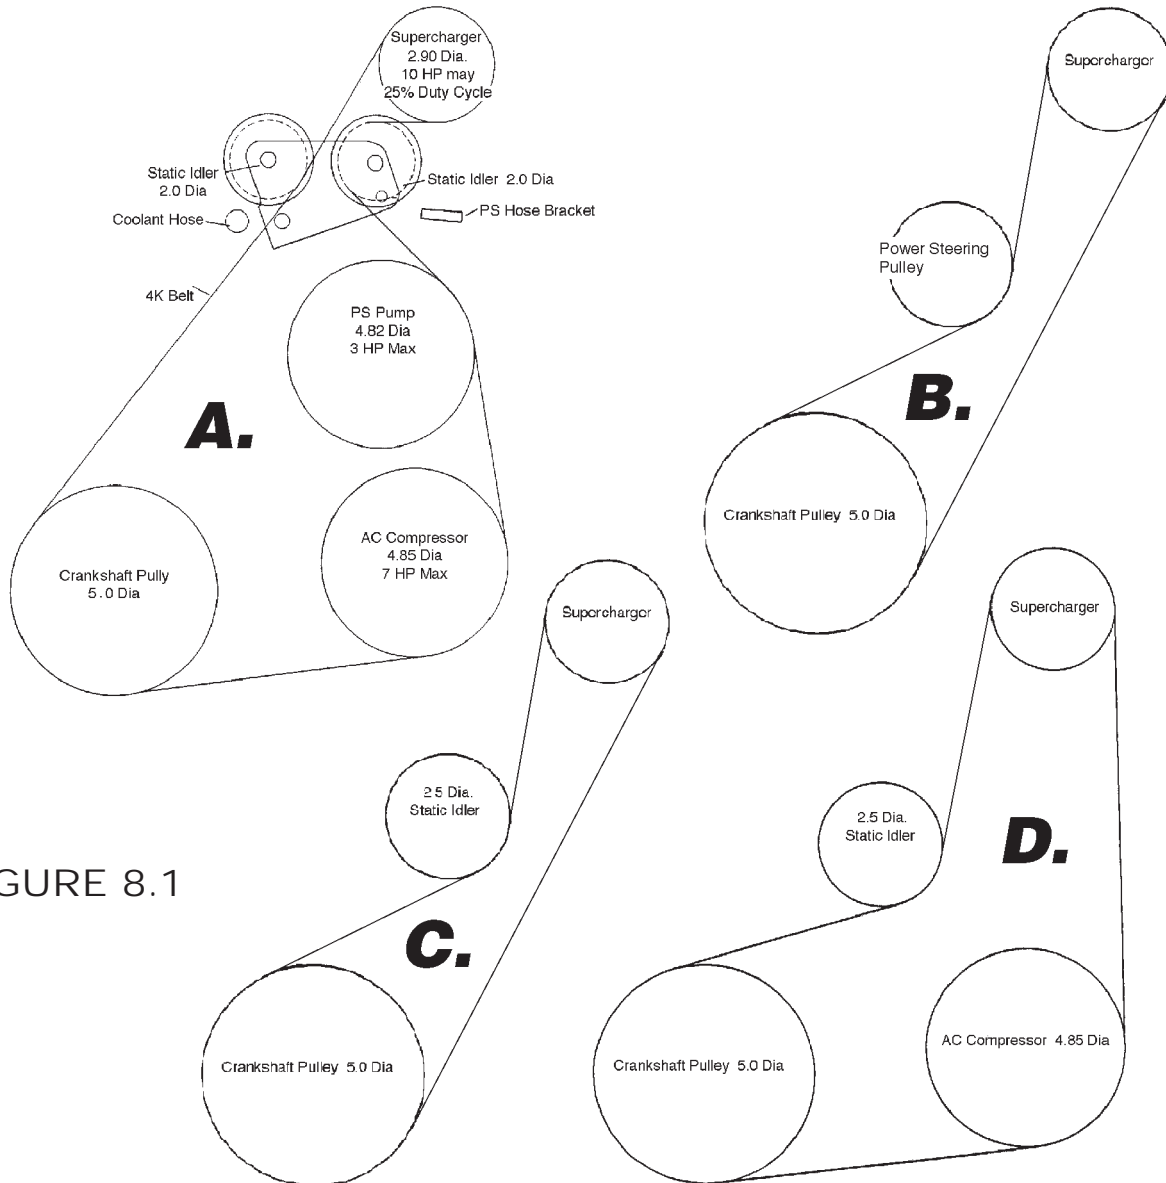

FIGURE 8.1
**VERY IMPORTANT:** Check the clearance between the small coolant hose that runs from the base of the thermostat housing and the passenger side plastic idler pulley (see figure 8.1). If the clearance is less than 1/2 inch between the hose and the pulley, trim three quarters of an inch of length off of the thermostat end of the small hose. Reinstall the hose, reusing the spring clamp. By removing a small piece of the hose end, the hose will be pulled away from the idler pulley, avoiding any damage during operation. This is a critical area for attention since a hose failure could cause severe engine damage. Not all cars need this modification.
8.1 Install the new 4 rib drive belt. This new belt will run counter-clockwise from the crankshaft, around the air conditioning compressor, up to the power steering pump, over to the right plastic idler pulley, up and over the supercharger pulley, just under the left plastic idler pulley, and back down to the crankshaft. Figure 8.1 shows the belt run for configurations A-D listed below.